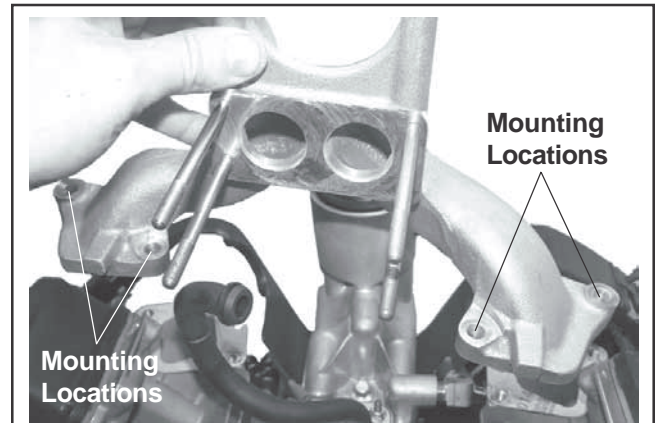

Figure 8-18. Removing Intake Manifold.
4. Remove the intake manifold and gaskets. See Figure 8-18.